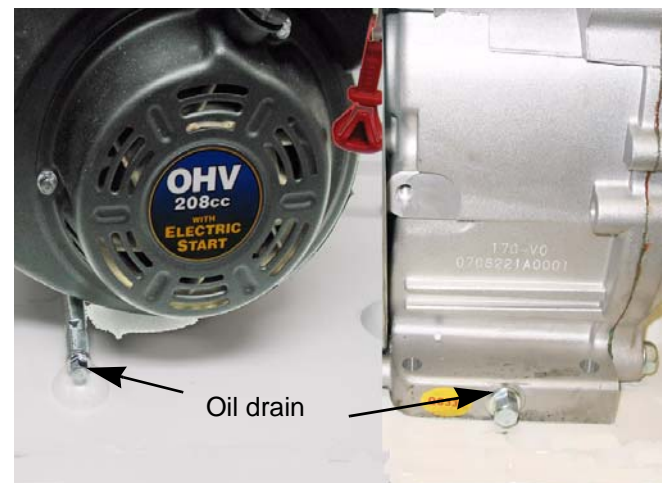

Figure 1.4
1. Drain the oil by removing the drain plug located at either the base of the engine or from an extension drain threaded into the base of the engine, using a 10mm wrench. See Figure 1.4.